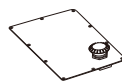

Figure 30
Step 2: Open the power cover(Figure 30)